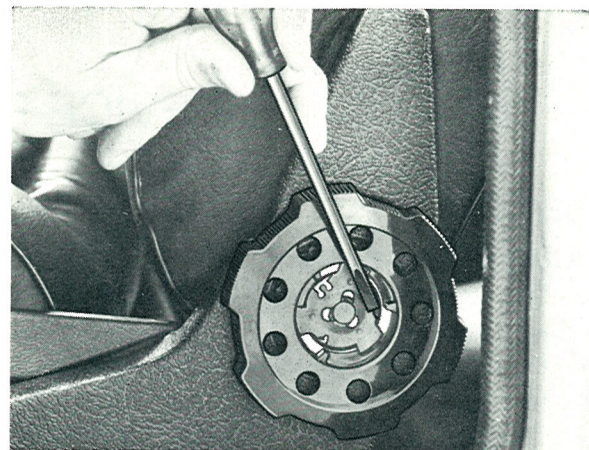

Fig. 8-56. Hand wheel installation
6. Install the hand wheel by turning the lock clockwise, as shown in Fig. 8-56.